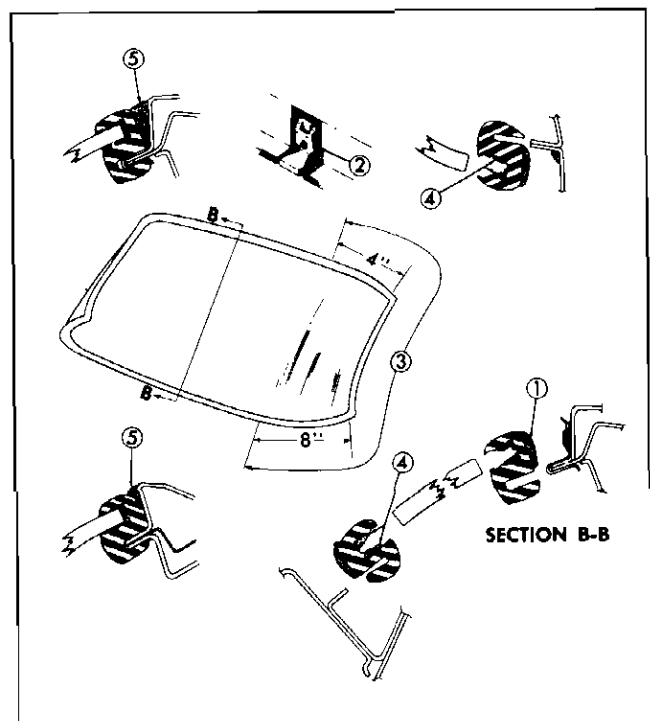

Fig. 1-10 Windshield Sealing
4. Apply a ribbon of medium-bodied sealer completely around base of rubber channel (Fig. 1-10).
6. Apply a bead of medium-bodied sealer approximately $\frac{1}{4}$ " in diameter to corner of windshield opening rabbet and around each side of windshield opening for a distance (Fig. 1-10).
weatherstrip adhesive (Fig. 1-10). Seals are to extend completely around rubber channel.
11. On outside of windshield, apply medium-bodied sealer between windshield rubber channel and opening across top and sides (Fig. 1-10).
5. Using a pressure type applicator, seal inner and outer lips of rubber channel to glass with an approved weatherstrip adhesive No. A (Fig. 1-10). Seals are to extend completely around rubber channel.
6. On outside of windshield apply medium-bodied sealer between windshield rubber channel and opening across top and sides (see 5 in Fig. 1-10).